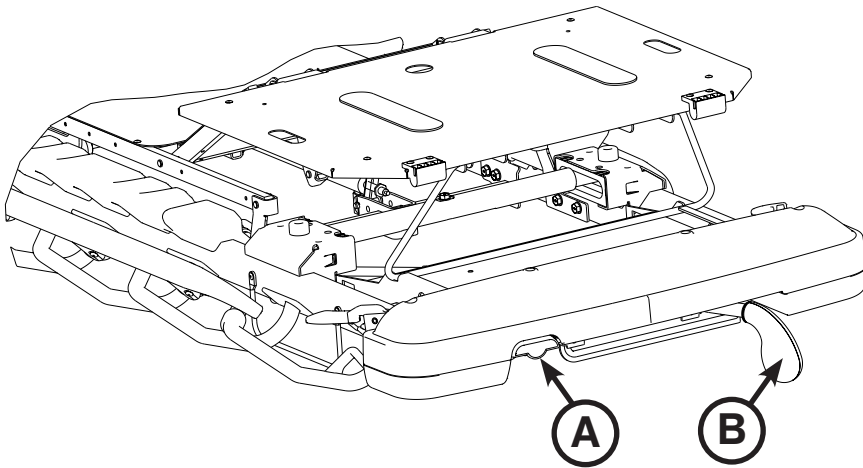

Figure 26: Gatch - Foot End
To lower the gatch, pull handle (A) until the gatch has reached the desired height (5.5"/14 cm minimum) as shown in Figure 26.